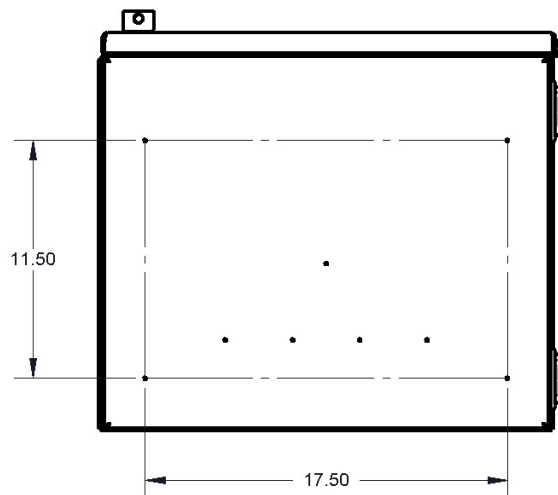

Figure 8: Enclosure/plinth mounting hole locations
- On the bottom of the enclosure, locate the four outer mounting hole locations denoted by centerpunch marks as shown in Figure 8. Drill out 0.281 inch diameter holes in each location for the 1/4 inch bolts installed in the next step.